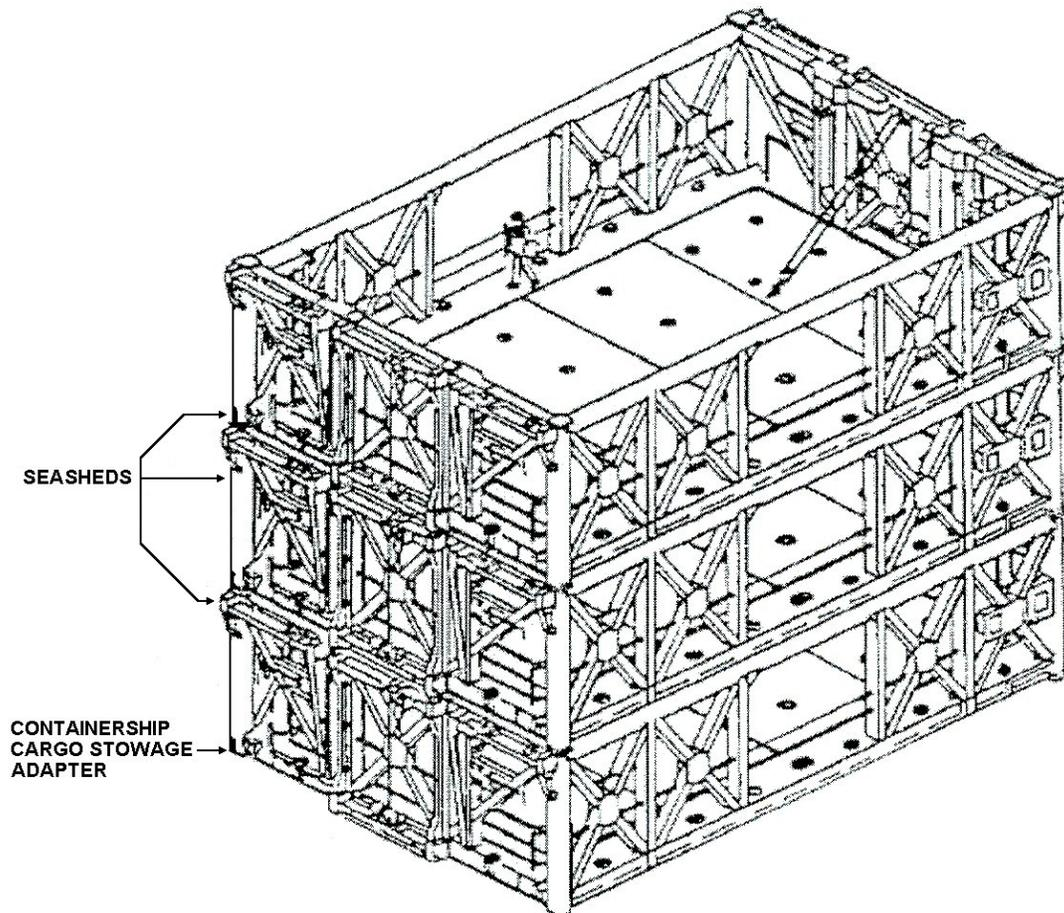

Figure 3-46
1. Operate seasheds system (see Figure 3-46).